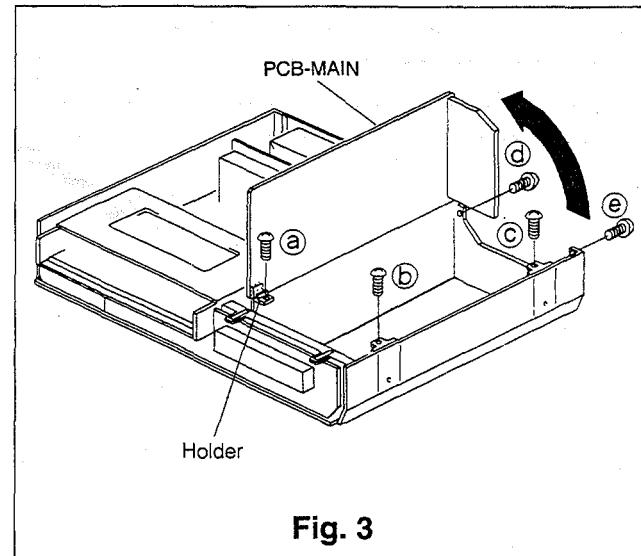

Fig. 3
- B. Remove five screws (@~@), as shown in Fig.3.